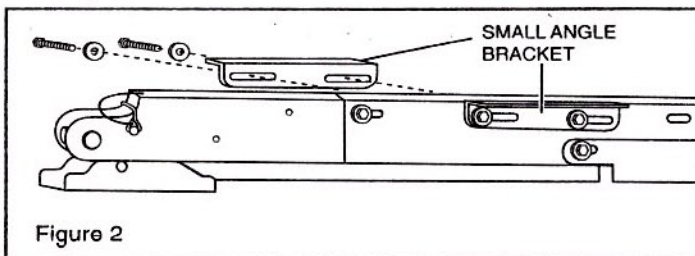
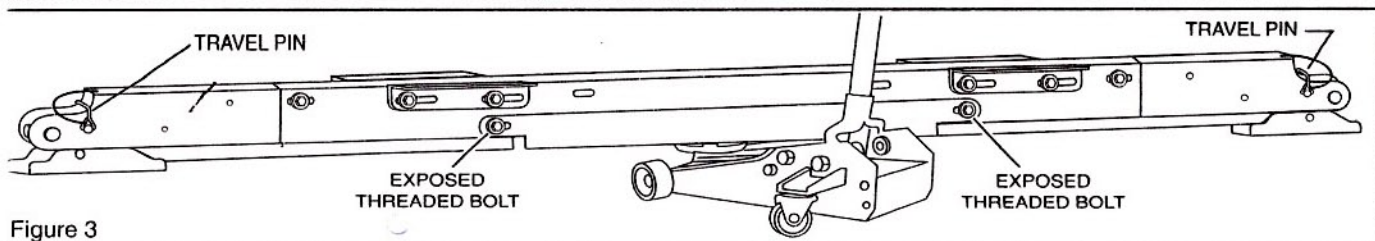

Figure 2
Figure 3
**STEP 1.** Assemble the leveling jacks by sliding the jack sections into both ends of the center channel as shown in Figure 3. When the desired length of the assembly is obtained and holes are aligned, install the bolts, washers and
**STEP 2.** Install two small angle brackets on each leveling jack. Figure 2. Do not tighten the bolts. Balance the leveling jack assembly on the lift saddle of an automotive floor jack as shown in figure 3. Make sure the side of the leveling jack assembly with the two exposed threaded bolts is facing the rear of the motorhome. Also make sure the travel pins are installed from the rear of the motorhome.
**STEP 1.** Assemble the leveling jacks by sliding the jack sections into both ends of the center channel as shown in figure 3. When the desired length of the assembly is obtained and bolts are aligned, install the bolts, washers and nuts on both ends of the center channel. Figure 7 shows driver's side. Hand tighten the bolts and nuts to allow for fine adjustment of the length.